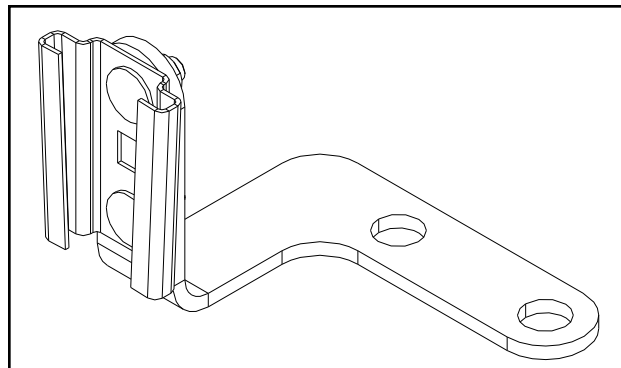

Fig. 20.1 (SMV Sign Bracket - Original)
- 20.1** Retrieve the SMV sign bracket removed in step 1. See Fig. 20.1